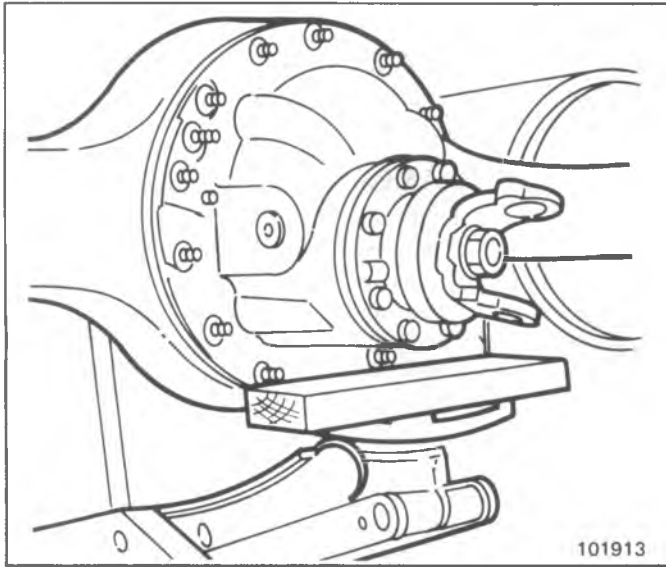

Fig. 4B5-3--Carrier Removal
Removal (Fig. 4B5-3)
6. Remove top nuts and washers and work carrier free. A small pinch bar may be used to straighten the carrier in the housing bore. However, the end must be rounded to prevent indenting the carrier flange. Use a roller jack to safely remove carrier from housing (Fig. 4B5-3).